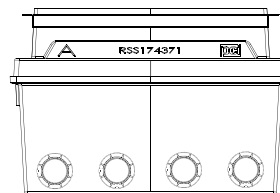

FIGURE 4
E. Drill mix the supplied E-123-AR bonding kit per labeled instructions. Pour the mixed bonding kit into the sump base epoxy trough. Lower the sump riser into the trough and twist back and forth to release any entrapped air. Allow epoxy to fully cure and cool before proceeding. Refer to FIGURE 4.